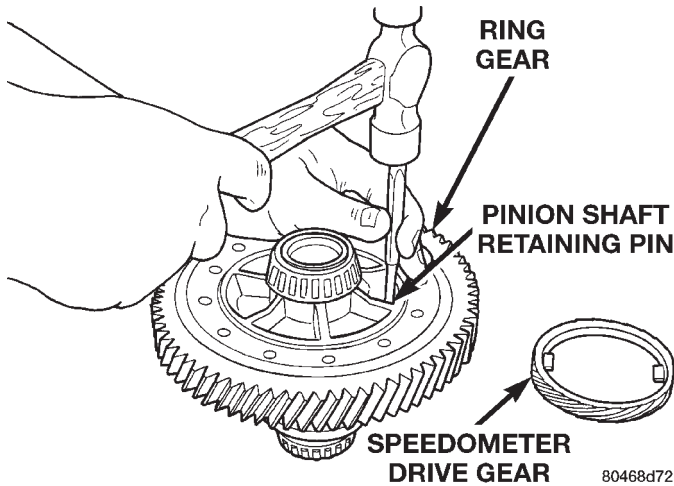
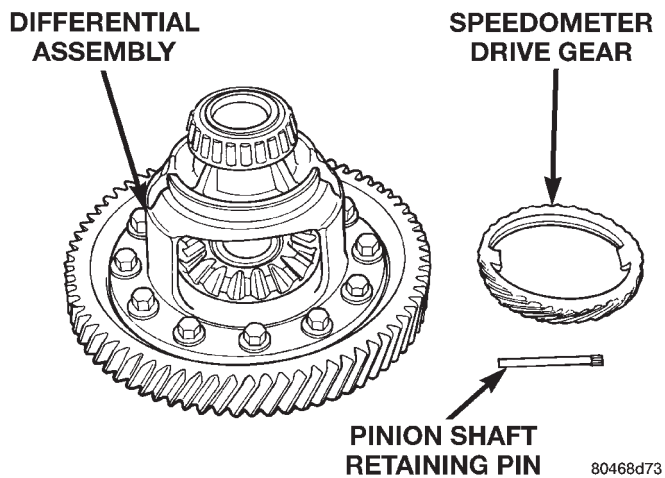

Fig. 117 Remove Pinion Shaft Retaining Pin
Fig. 118 Retaining Pin Removed
- (1) Remove pinion shaft retaining pin (Fig. 117) (Fig. 118).